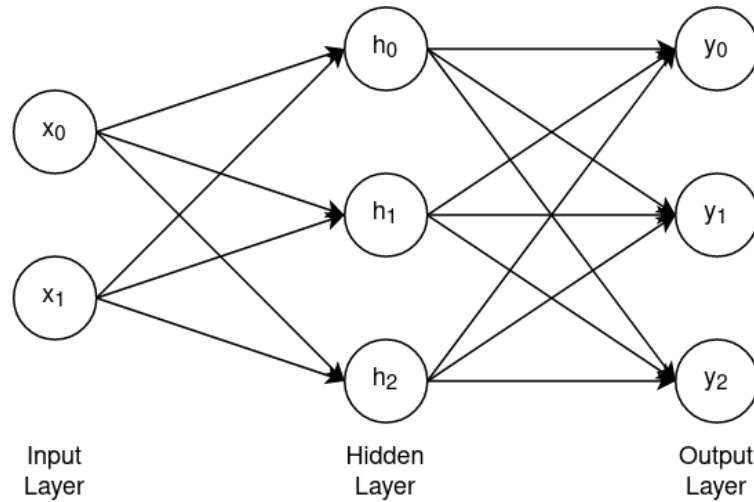

Figure 1: Neural Network Architecture
2. [15 points] The neural network you will be implementing is a multi-class classification model. The architecture is as follows: 1 input layer consisting of 2 input neurons, 1 hidden layer consisting of 3 neurons and 1 output layer consisting of 3 output neurons. Refer to Figure 1 for illustration.